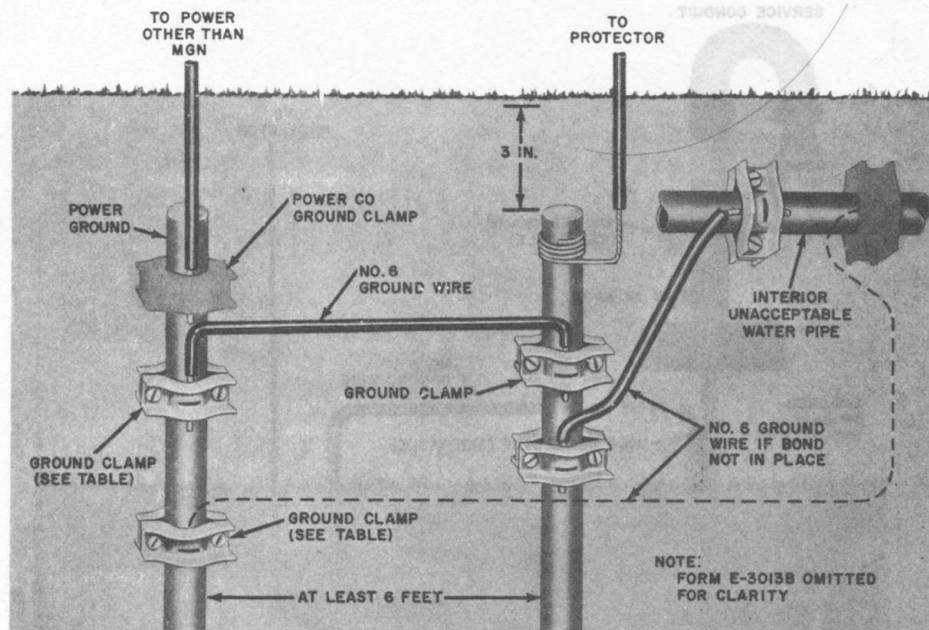

Fig. 28—Power Other Than MGN Grounded to Ground Rod—Unacceptable Interior Water System
- (b) If the power service and the telephone protector are connected to separate ground rods, bond the two rods together as shown in Fig. 28 and 29.
(b) If a power ground rod is available, one telephone ground rod is sufficient. Bond all protectors together and bond telephone ground rod to power ground rod (Fig. 28).